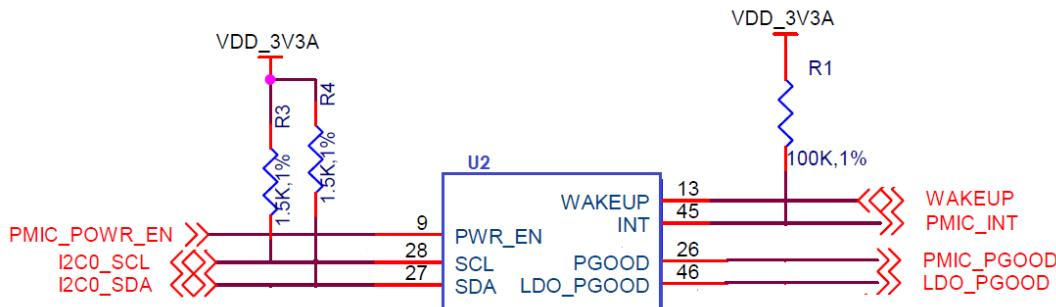

Figure 28 Power Processor Interfaces
**Figure 28** shows the interface between the **TPS65217C** and the processor. It is a cut from the PDF form of the schematic and reflects what is on the schematic.
**Figure 28** above shows two interfaces between the processor and the **TPS65217C** used for control after the power up sequence has completed.